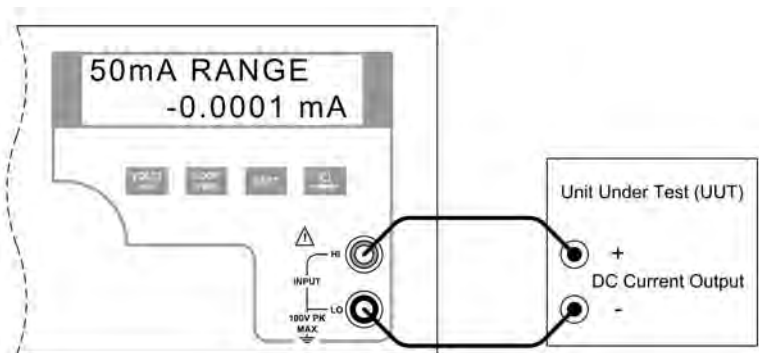

Figure 18 - Isolated DC Current Input Connection
- Connect the unit under test to the isolated voltage/current input terminals of the CL3001 as shown in figure 18.